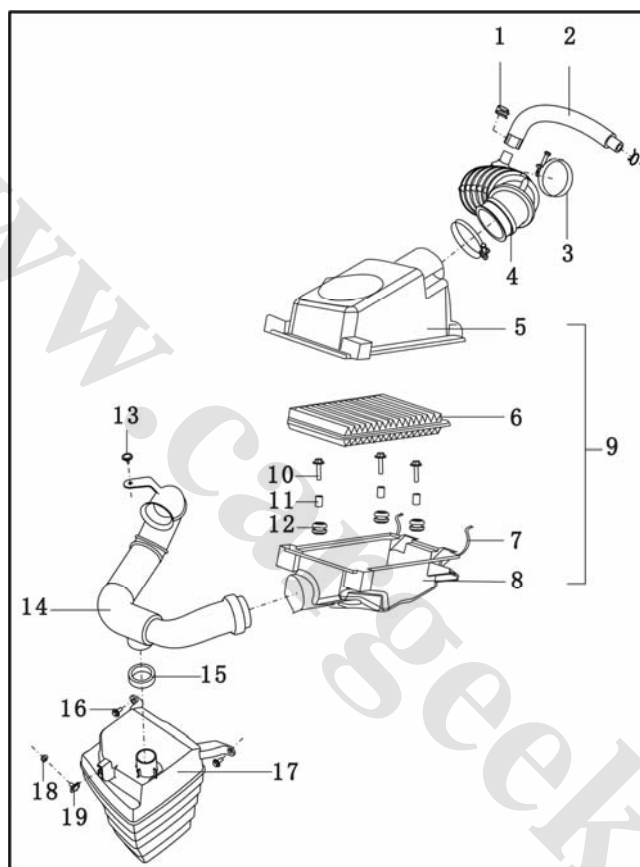

Fig. 2-82
(3) Removal steps (Fig. 2-82)
Removal and installation (Fig. 2-82 shows the air cleaner assembly of sedan with TRITEC1.6L engine).